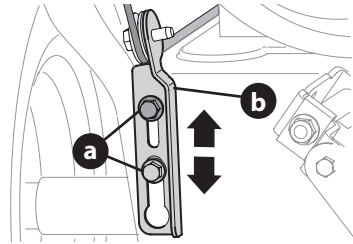

Figure 54
- Allow auger to remain engaged for approximately ten (10) seconds before releasing auger control lever. Repeat this several times.
- Loosen the two hex screws (a) on auger control cable bracket (b) (Figure 54).
- Position auger control bracket (b) upward to provide more slack in cable or downward to increase tension (Figure 54).